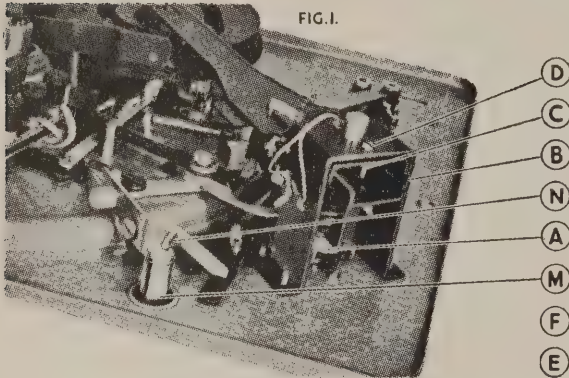
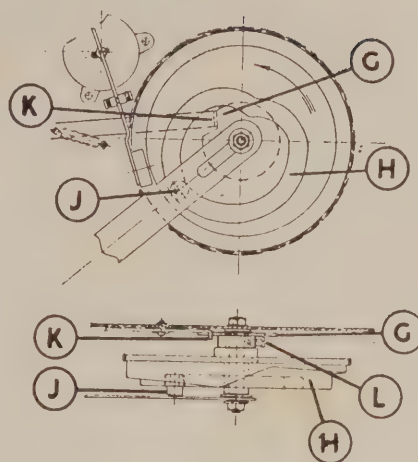

FIG. 1.
Fig. 3.
2. In the case of machines manufactured prior to June, 1950, the bracket carrying the Pickup Arm is attached to the vertical spindle housed in the Pickup Base by means of a single grub screw facing backward, and adjustment is effected as follows. Switch machine on to the 10 in. position and start up in the normal manner to determine amount of error in positioning. Leave the machine in playing position (i.e. with cycle complete) and switch off at mains. Undo clamp nut fitted to pickup operating lever A (fig 1). Insert screwdriver blade between operating lever clamp nut and pickup operating bracket B (fig. 1) to act as stop, and move pickup by hand to correct position. Remove screwdriver and tighten clamp nut. If pickup has to be moved in an outward direction the screwdriver should be in between parts A and B on the side nearer the motor and vice-versa.
If the height of the pickup has ever to be adjusted, the nut C (fig. 1), should be slackened and screw D (fig. 1), adjusted as required. Turning screw D in a clockwise direction raises the pickup—and turning it in an anti-clockwise direction lowers the pickup. Nut C should then be tightened.
1. The balancing arm spindle M (fig. 1), is not falling to its full extent and making contact with the pin N (fig. 1). This will be due to the balancing arm spindle sticking in its housing, and this should be freed.
2. The anti-jamming cam G, (fig. 1), may have slipped and should be re-set in correct relationship to the main cam H, (fig. 3). The method of adjustment is as follows:—The screw L on the cam G, should be unscrewed. With roller J (fig. 3),
at peak of cam track as shown at (fig. 3), the face of slide K should be set in contact with the face of the cam G as shown in the diagram. Screw L should then be re-tightened.